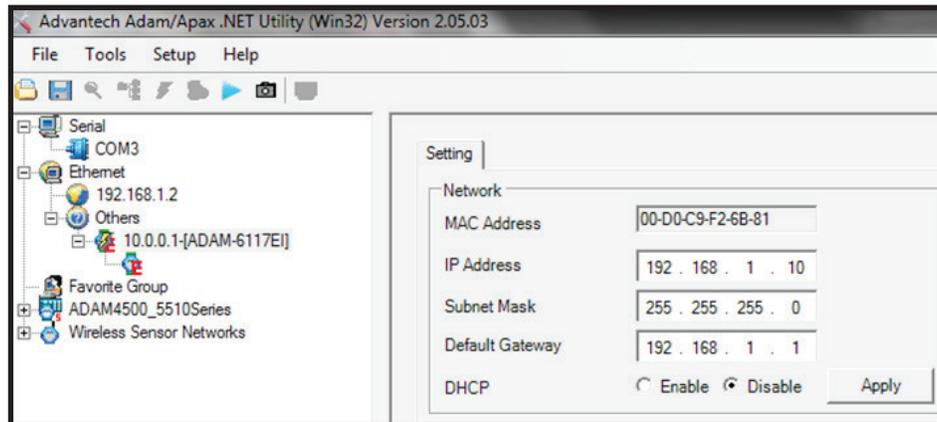

Figure 3—Module Setting tab
3. Click the module you want to configure. The **Setting** tab for the module appears in the module information pane. This tab includes the module's MAC ID and Ethernet configuration settings (Figure 3).